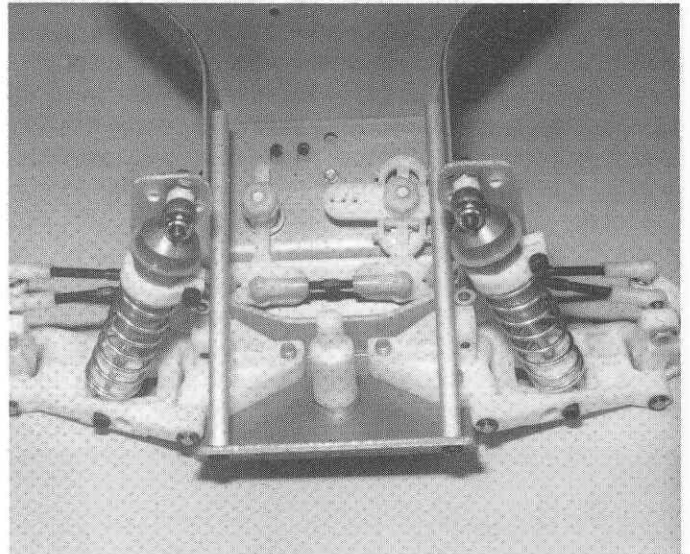

Fig. 134
□ **Fig. 134** These tubes tie in the nose piece very solidly to the chassis. Start by installing the rear screw through the side of the chassis, but do not tighten yet. Install the forward screw through the front of the nose piece into the end of the rod and tighten down. Now tighten the rear screw. Install the 2nd brace.